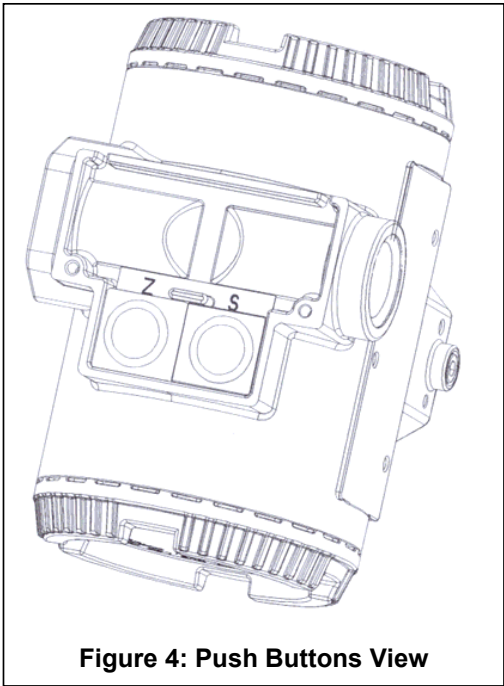

Figure 4: Push Buttons View
- 1- Acting on the external push buttons, see the Figure 4. The choice of the variable to be displayed is executed scrolling the TAGs of the max.9 variables available in input (8 linked and 1 from the Host) and selecting the desired one.
Then after the two external push buttons have been kept pressed together for **more than 2 seconds**, see the figure 4, it will be displayed the string: